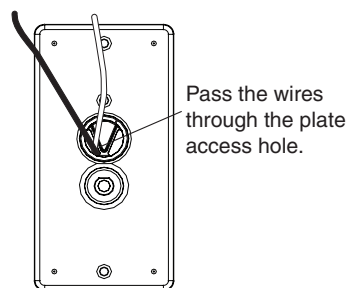

Figure 6 — Pass the wire through the plate
6. Pull sufficient wire up through the holes in the rear plate (see figure 6) to allow ease of connection to the speaker after installation.